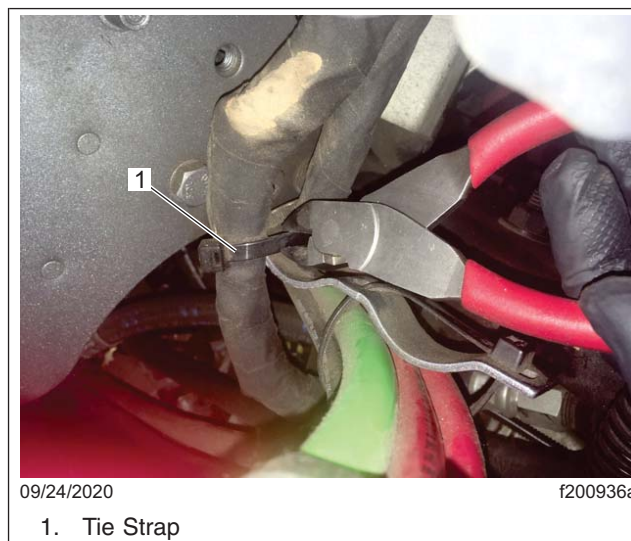

Fig. 15, Harness Tie Strap Removal
7. Cut open the tie straps that secure the DD5 engine harness to access the complete harness for inspection of the key chaffing points. The key chaffing points include air compressor-mounted bracket and discharge line, fuel lines, transmission dip stick tube, and at the cab frontwall-mounted bracket on the innermost edge of the left frontwall. See Fig. 15.